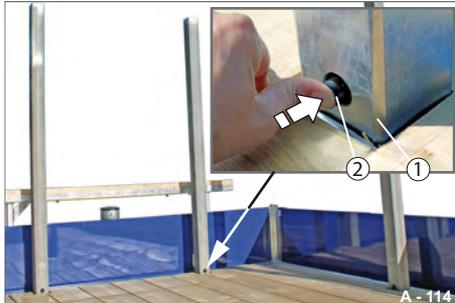

Fig. 169 Unlocking the slot-in posts
- ▶ Press in the locking button (Fig. 169/2).
- The slot-in post (Fig. 169/1) is released.